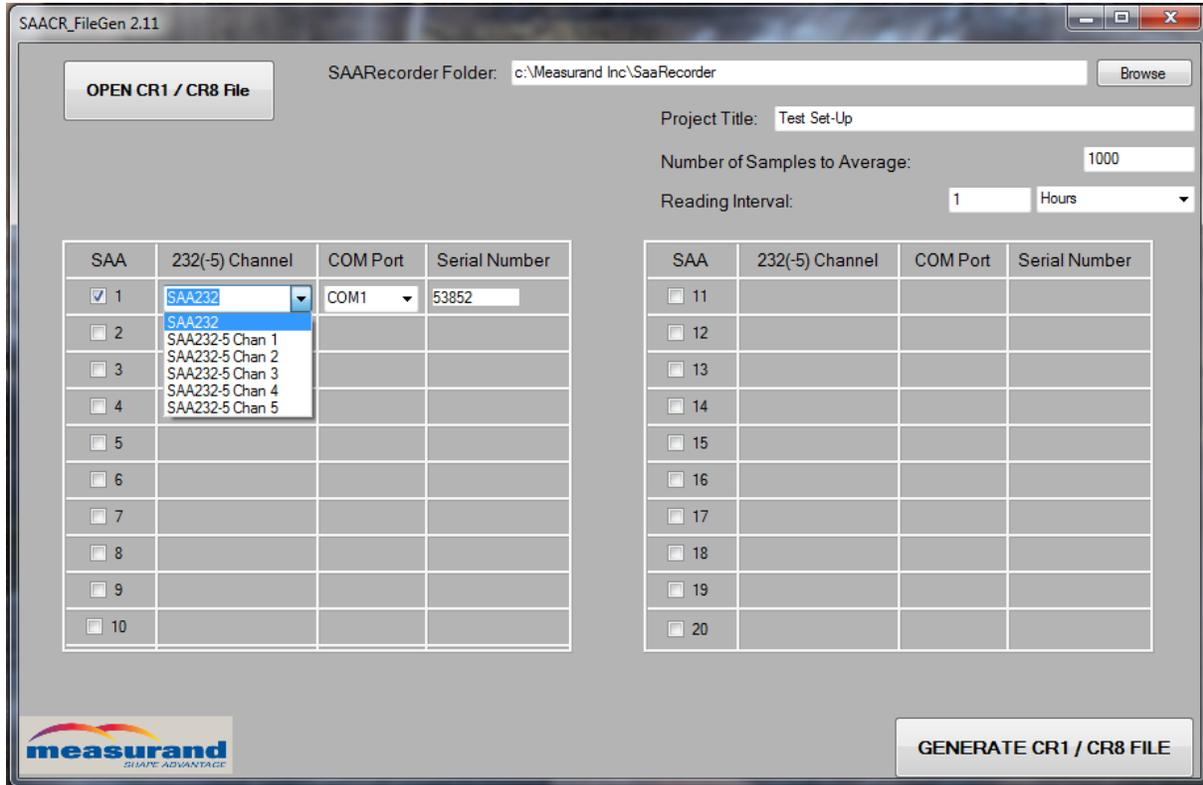

Figure 5.2: SAA232 or SAA232-5 Channel selection.
1. SAA232 or SAA232-5 Channel that the SAA is connected to (See Figure 5.2);